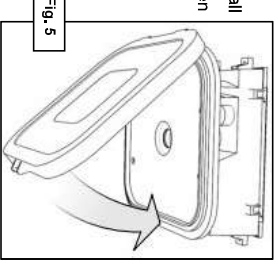

Fig. 5
13. Close up the light fixture, being sure not to pinch the LED wires (Fig. 5). If assembly will not close, remove LED panel and rotate it 90 degrees in the existing lens frame. Reinstall screws and tabs, then close up fixture. Once the fixture is closed, installation is complete.